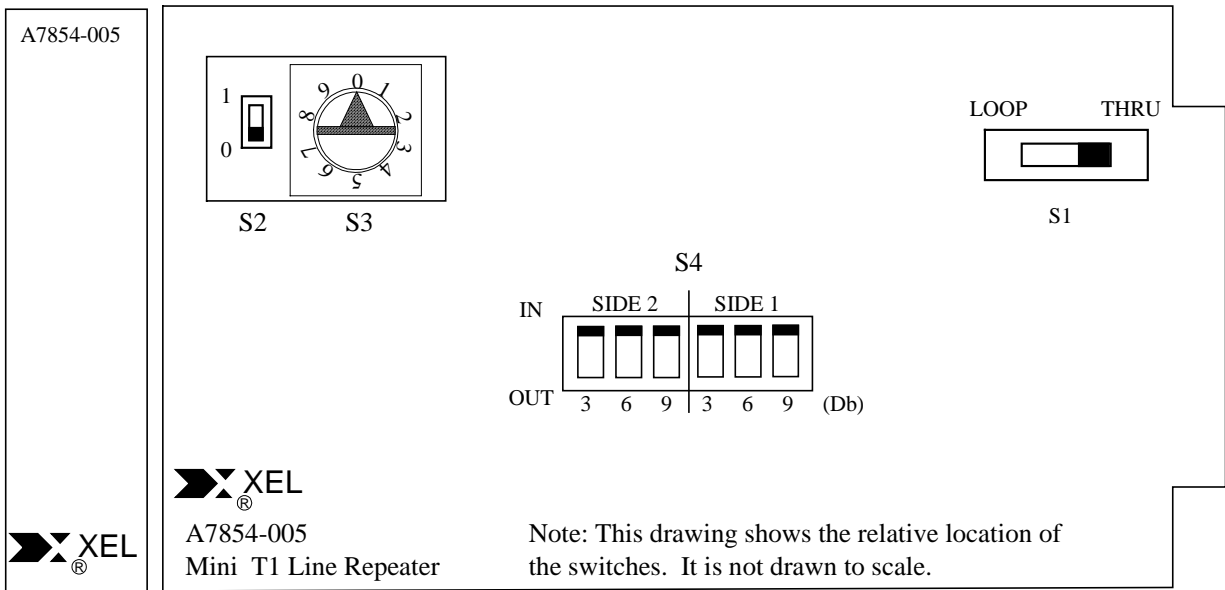

Figure 4. Switch Locations
5. Alignment The following procedures will allow the user to option the A7854-005 Repeater quickly and accurately. Refer to Figure 4 for an illustration of the switches. All switches are accessible without removing the cover.